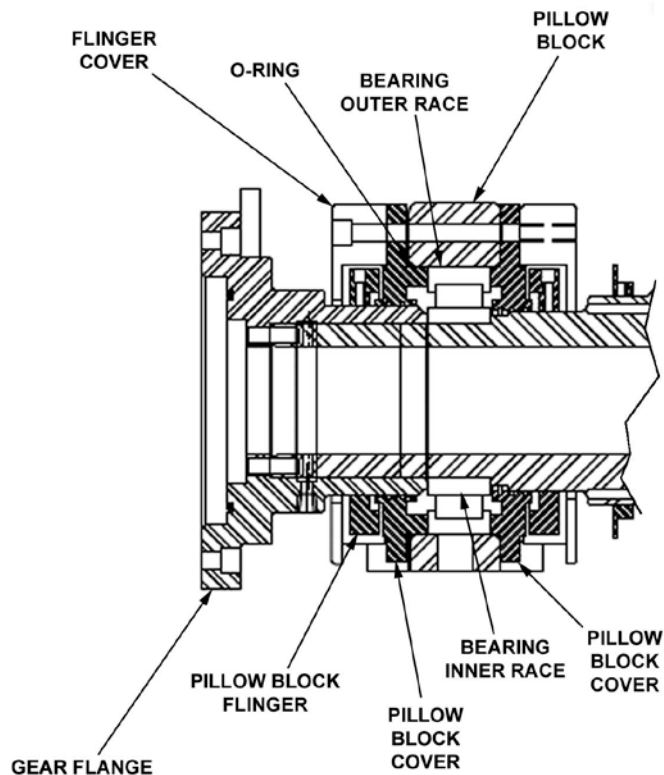

Figure 5-9 Liquid End Main Bearing Installation
8. Remove flathead screws securing outboard pillow block cover (Figure 5-9) to pillow block, and remove cover. Separate O-ring from pillow block cover and discard O-ring.
3. Slide inboard pillow block flinger onto shaft (Figure 5-9), followed by pillow block cover. Do not tighten flinger set screw at this time.